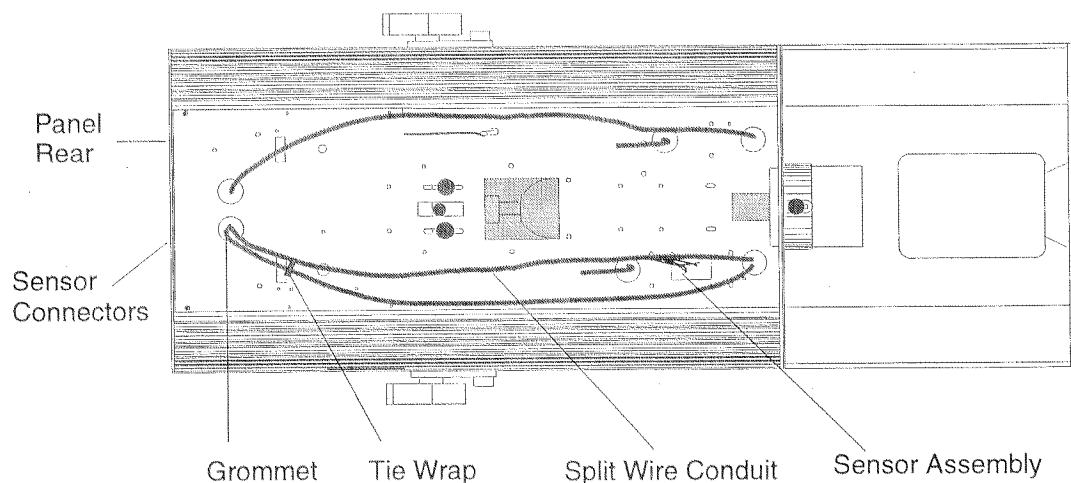

Figure 8.9. Removing Sensor Wiring from Split Wire Conduit
8. Next, you remove the Sensor assembly, wiring, and connectors from the fixture. Refer to Figure 8.9. First cut any tie wraps along the wire conduit containing the sensor wires. Then, beginning from the connector end of the Sensor wiring harness (rear panel), pull the split wire conduit containing the two connectors through the grommet. As you pull the conduit out of the grommet, carefully push the connectors through the grommet one at a time.